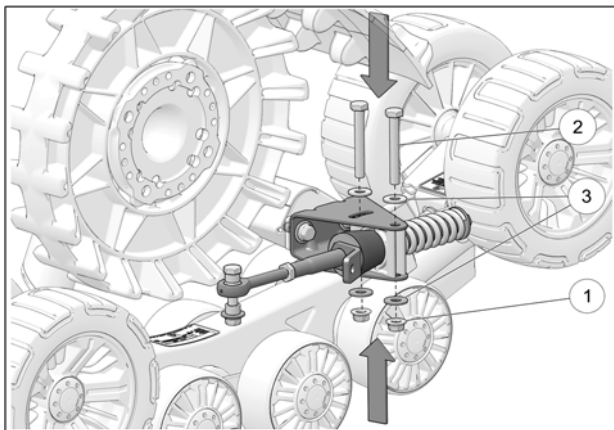

Fig. 21
6. Reinstall bolts (2), washers (3) and nuts (1) to secure anti-rotation arm to front Track system. See Fig. 21